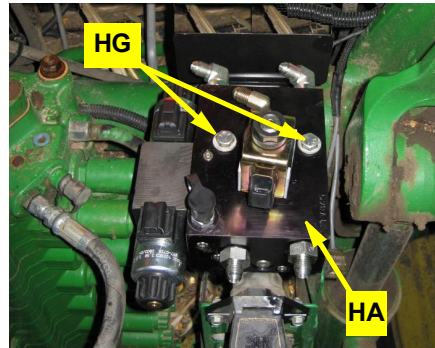

Figure 2b: Installed steering block.
- b. Secure the hydraulic steering block **HA** to the bracket **HE** using hardware **HG** (Figure 2b).